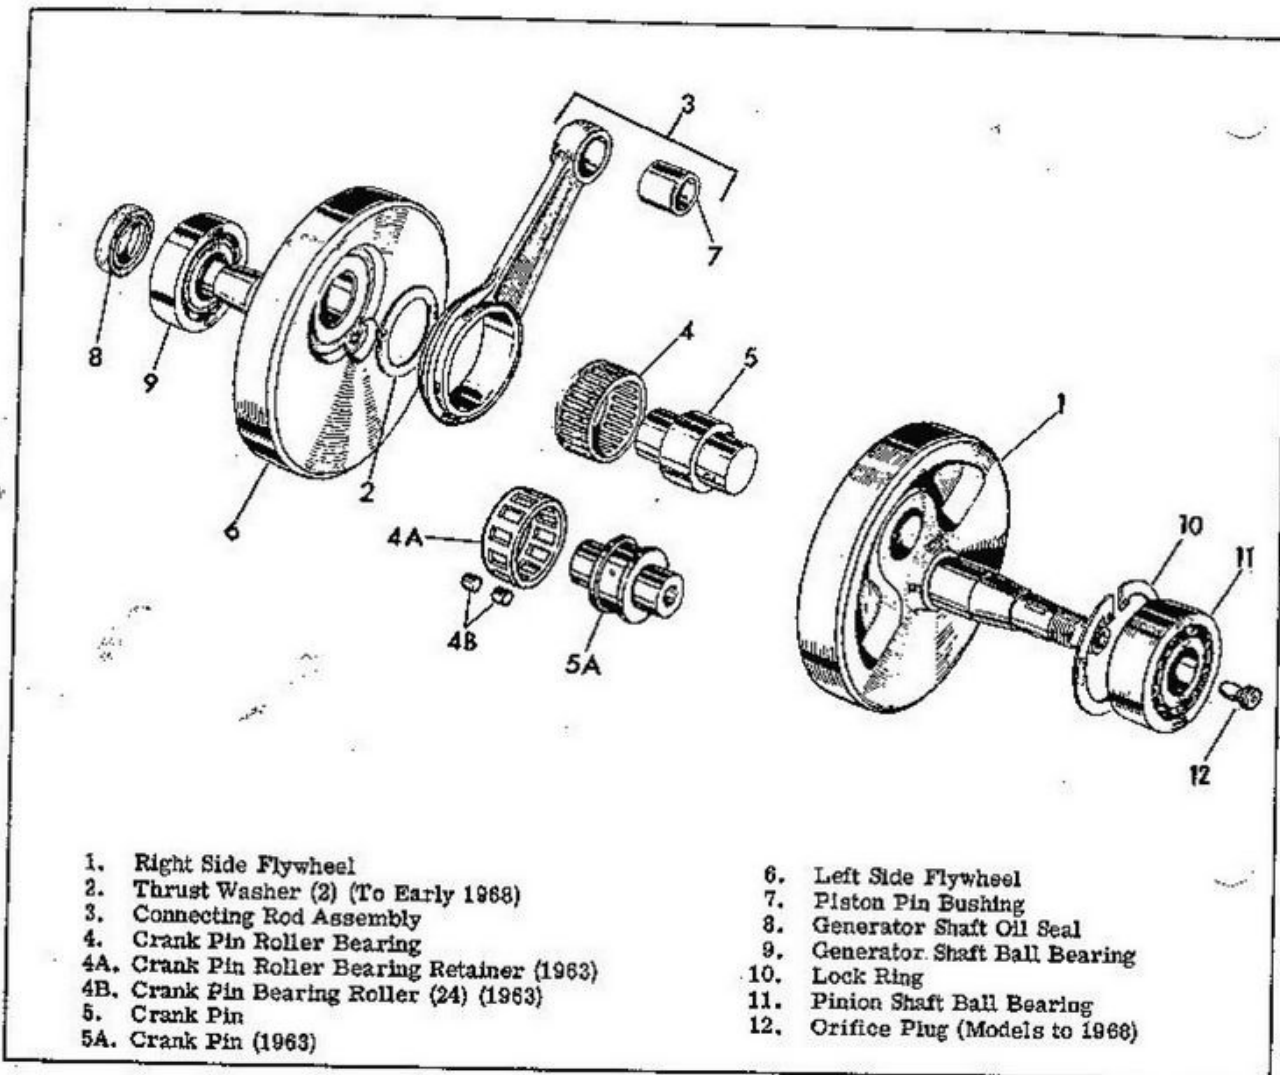

Figure 3E-80. Flywheel and Connecting Rod Assembly - Exploded View
Support inner surface of gear side (right) flywheel (1) on support plate (support plate between flywheels) in arbor press; using circular drift, press crank pin (5 or 5A) out of flywheel (1), as shown in Figure 3E-82.